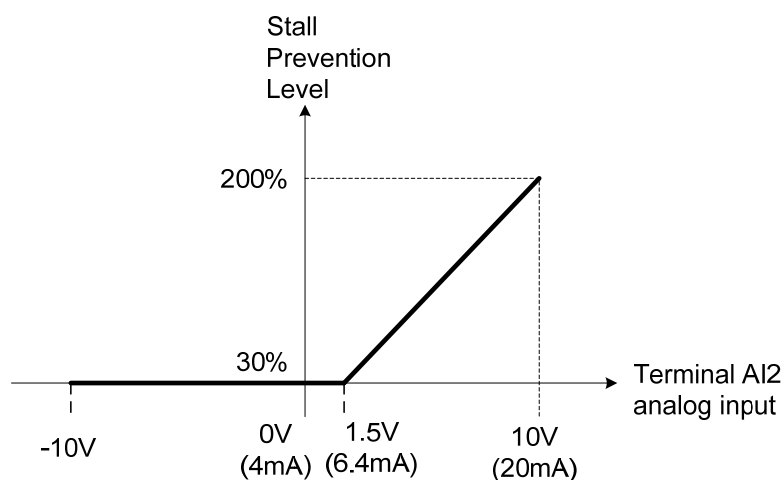

Figure 4.3.46 Stall prevention level adjustment in operation
(8) Stall prevention Level During Running (Setting = 7)
- .Application example: If the motor capacity is less than that of the inverter, the operation and the stall prevention of the motor is based on the factory settings, multi-function analog input AI2 can be used to reduce the stall prevention level in operation. Please refer to the following figure 4.3.46.